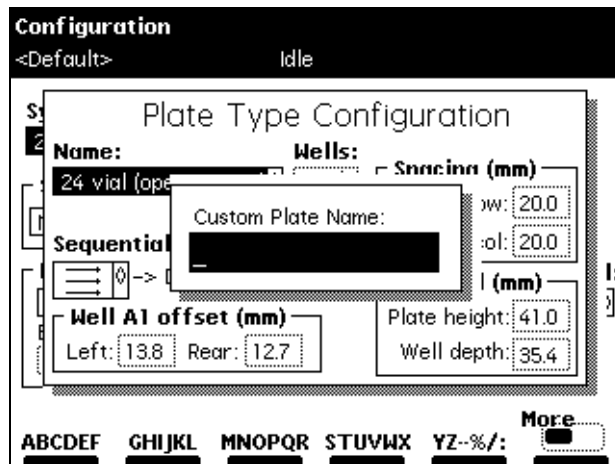

Figure 1-8 Custom Plate Name Field
1. In the Plate Type Configuration dialog box, press the **Copy** screen key to display the Custom Plate Name field (Figure 1-8).